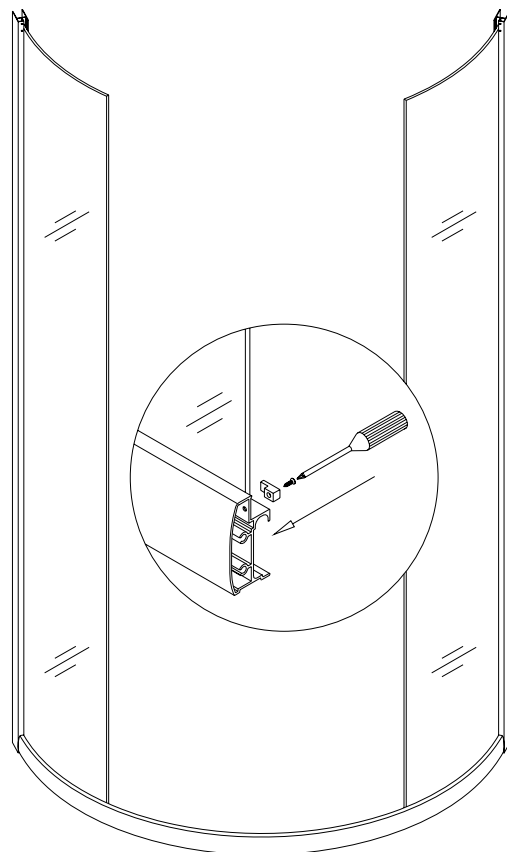

Fig 4
2. Push the Stationary glass (7) into Glass profile groove, and then fasten it by Glass holder (16) to the Guide rail (fig 4).